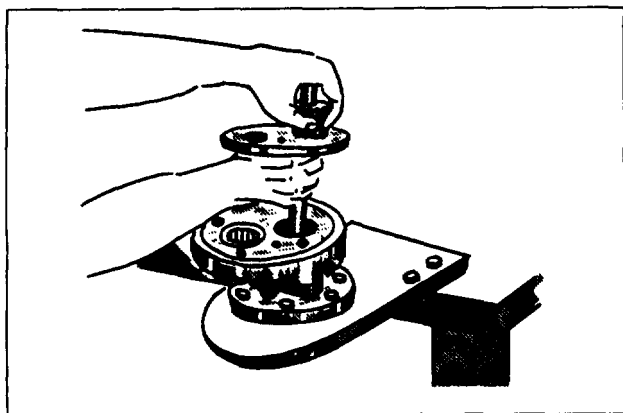

FIGURE 17 Drive Shaft, Inner Wear Plate and Seal Assembly being Installed in Adapter
- q. Turn the entire drive shaft assembly over and install it in adapter as shown in Figure 17. Use a composition (fibre or plastic) hammer to drive entire assembly into adapter forcing bearing into bearing bore.